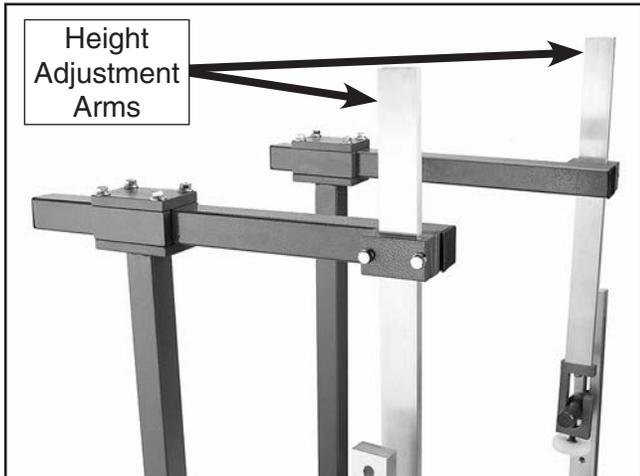

Figure 10. Height adjustment arm installation.
- Slide the height adjustment arms into the locking plates, as shown in **Figure 10**, with the hanger openings outward, and tighten the hex bolts.